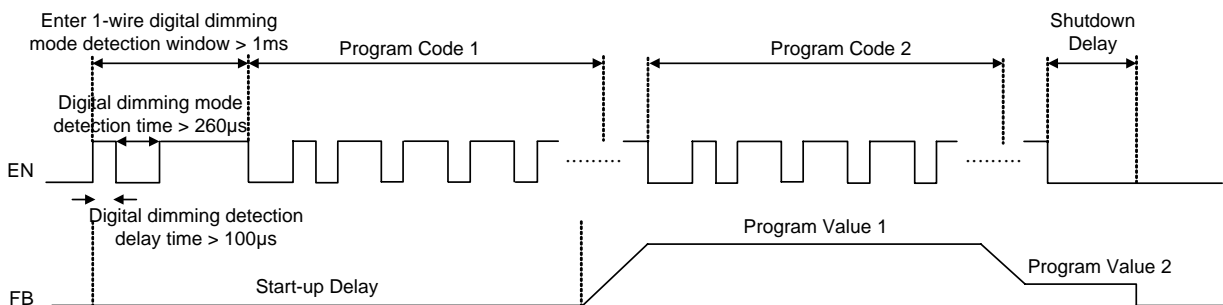

Figure 4. Start-Up for Digital Dimming Mode
- ▶ Pull the EN pin high after the detection time (260 μ s) and before the detection window (t_{ES_Win} , 1ms), once the above 3 conditions are met, the IC immediately enters the digital 1-wire dimming mode. The digital dimming communication can start before the detection window expires. Once the dimming mode is selected, it can not be changed without another start up. This means the IC needs to be shut down by pulling the EN low for 2.5ms and restarts. See the dimming mode detection and soft-start (see Figure 4) for a graphical explanation.